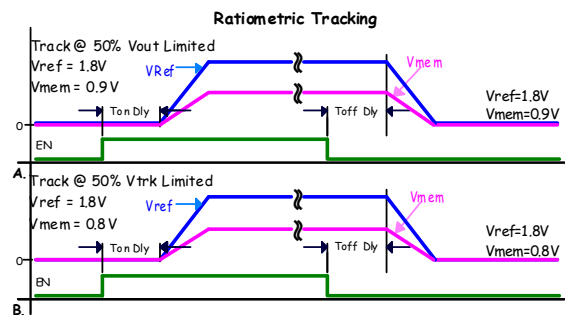

FIGURE 18. RATIOMETRIC TRACKING
1. Track at 50%  $V_{OUT}$  limited. Member rail tracks the reference rail and stops when the member reaches 50% of the target voltage, Figure 18\(A\).
2. Track at 50% VTRK limited. Member rail tracks the reference at the instantaneous voltage value applied to the VTRK pin until the member rail reaches 50% of the reference rail voltage, or if the member is configured to less than 50% of the reference the member will achieve its configured target, Figure 18\(B\).